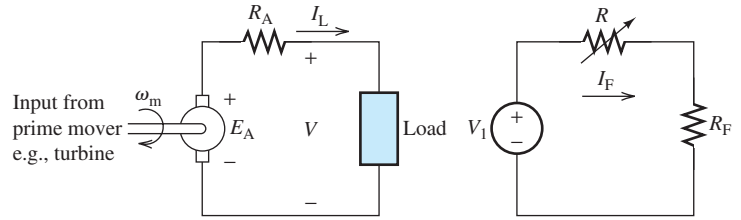

FIGURE 13.29 Equivalent circuit for a separately excited DC generator.
As its name suggests, with this generator there are two separate sources of voltage, one for the armature circuit and the other for the field circuit. As shown in Figure 13.29, in a separately excited DC generator, a prime mover creates the rotational movement of the generator at an angular velocity of ω_m . Induced armature voltage (i.e., the back-emf E_A) generates current flow through the load. Here, I_L and I_F are the load and field currents, respectively. Figure 13.29 (right side) shows the field circuit in which V_1 is the field voltage, and R_A and R_F are armature and field resistances, respectively. The voltage across load is represented as V . E_A is the emf generated by the prime mover and R is the variable resistance inserted to control the flux generated, and therefore the load voltage.
- Considering Figure 13.29: